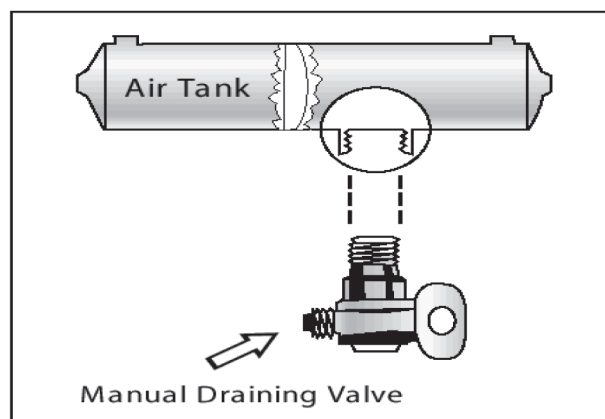

Figure 5.1
1. Manually operated by turning a quarter turn or by pulling a cable. You must drain the tanks yourself at the end of each day of driving (**See Figure 5.1**).